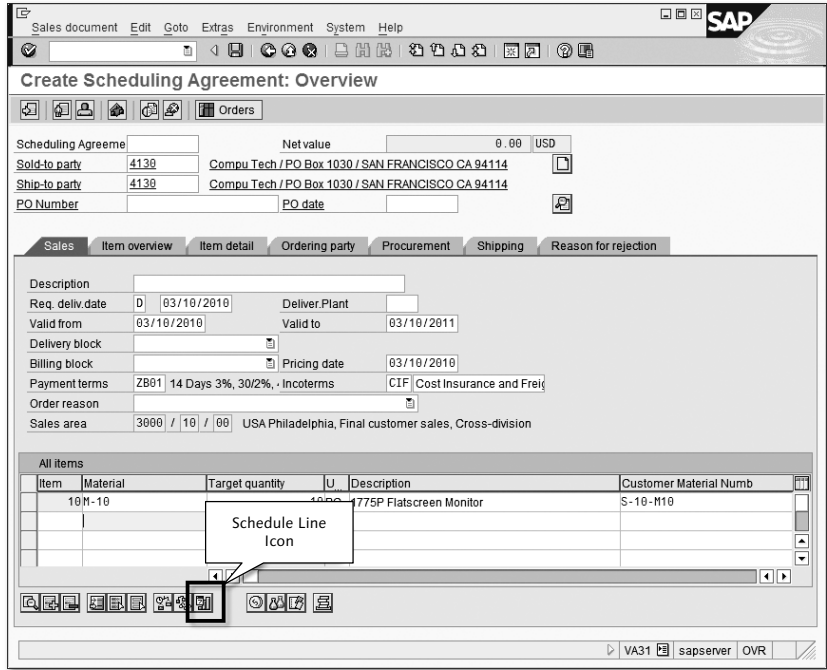

Figure 3.24 Create Scheduling Agreement – Schedule Line Icon
6. To enter the delivery dates, you have to access the schedule line details screen by using the SCHEDULE LINE icon, as highlighted in Figure 3.24, or by going to GOTO • ITEM • SCHEDULE LINES.